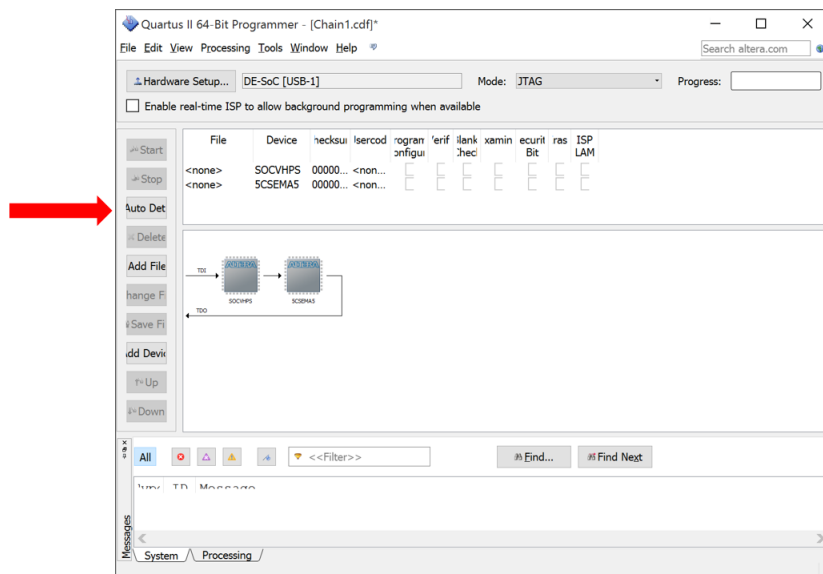

Figure 6: View after clicking “Auto Detect” and selecting the correct device.
4. Click “Auto Detect” in the programmer window once your device has been selected. You will need to select the 5CSEMA5 device. You should then see multiple blocks appear as in Figure 6. The 5CSEMA5 is the FPGA and the SOCVHPS is the ARM controller which you will not need to be concerned with as of now.